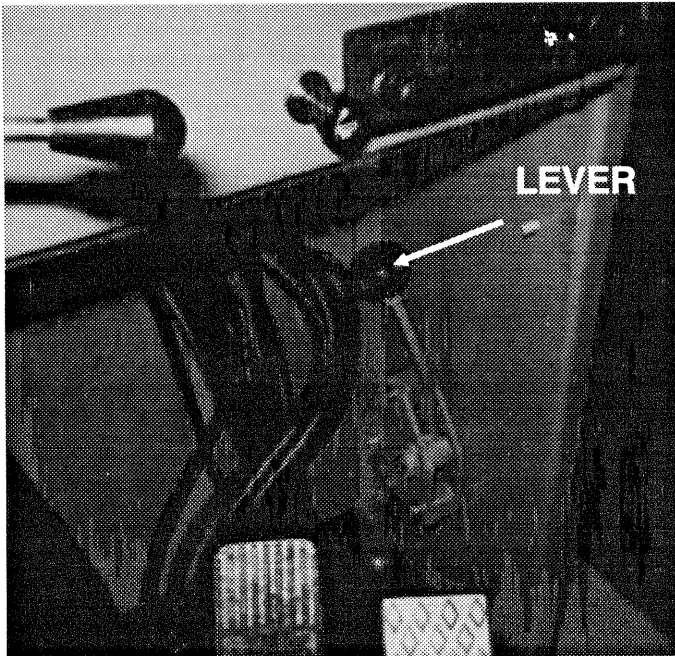

Fig. 3-13 Rear Axle Disconnect
37. Rear Axle Disconnect See Fig. 3-13 Four Wheel Drive (optional)